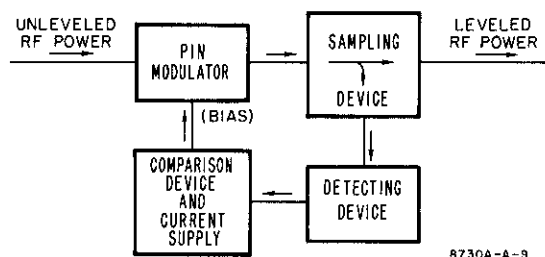

Figure 9. Simplified Block Diagram of a Closed Loop Leveling System
26. The PIN Modulator can be used in a closed loop leveling system as the power limiting device for maintaining RF power levels constant. A simplified block diagram of a closed loop leveling system employing a PIN modulator is shown in Figure 9. The system consists of some sampling device which samples the main line RF power level; a detecting device provides a DC signal proportional to the sampled signal; some comparison device which compares the detected signal to what it should be when main line power is at its lowest point and then provides a bias current sufficient to increase PIN Modulator attenuation and maintain a constant RF power level.